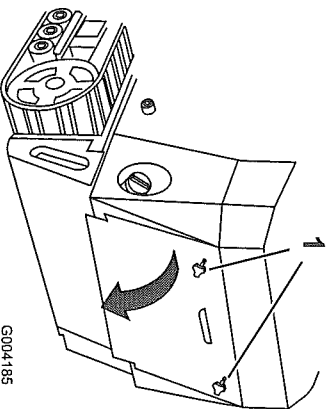

Figure 29
1. Unscrew the 2 hand knobs securing the rear access cover to the machine (Figure 29).
2. Tilt the rear access cover down and remove to access the internal components (Figure 29).